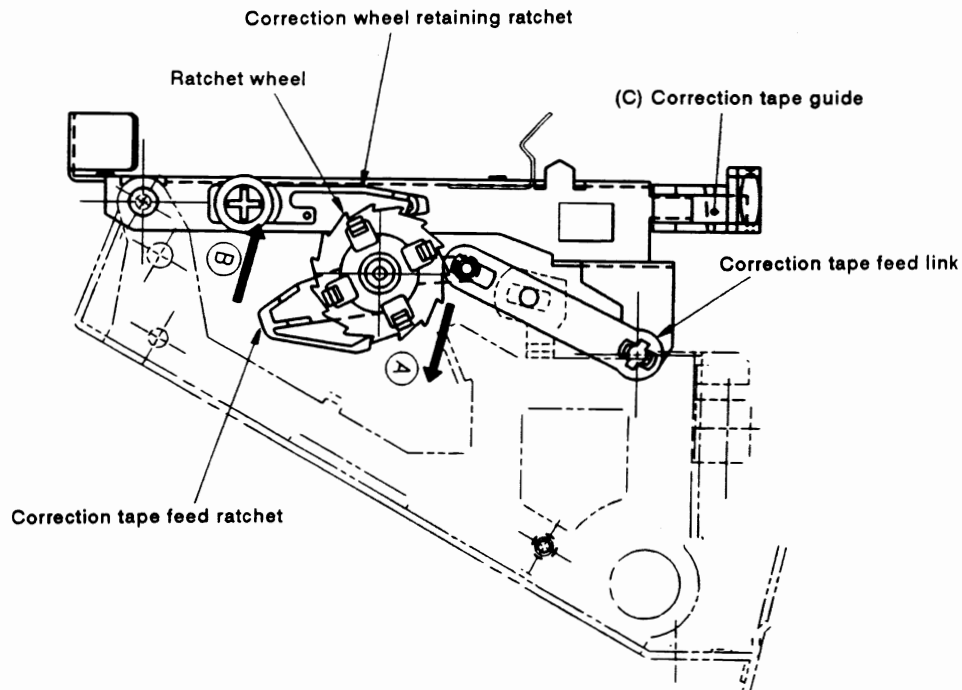

Fig. 3.2
- (3) The correction cam follower unit, which is mounted on the ribbon cassette support, has its shaft fitted in the groove of the correction cam. When the clutch collar rotates half a turn, the clutch armature stops the rotation. At this point, the correction cam follower unit fixed to the correction cam comes up to the apex of the cam and the ribbon cassette support is raised to its fully raised position, which brings the correction tape up to its printing position.
- (4) The hammer strikes the selected spoke four times against the correction tape to erase the printed character, while the ribbon cassette support remains at its raised position.
- (5) After the correction hammer has struck four times, current flows to the correction solenoid once more which causes the clutch armature, correction cam, and ribbon cassette support to return to their home positions.
NOTE: To check the vertical position of the correction tape, first print underlines " " with a correctable film ribbon. Then, erase underlines with a lift-off correction tape. The removed underlines should be 0.5 to 1.5 mm above the lower edge of the lift-off correction tape. If not, adjust the ribbon position by bending the correction tape guide at the front of the ribbon cassette support up or down (part (C) in Fig. 3.2)
- (6) The correction tape is fed by the vertical movement of the ribbon cassette support.
The shaft of the correction tape feed link is supported by the carrier frame, therefore, raising the ribbon cassette support moves the correction tape feed link in the direction indicated by arrow (A) shown in Fig. 3.2. The correction tape feed ratchet, connected to the correction tape feed link, is caused to move in the direction indicated by arrow (B) and catches the next tooth of the ratchet wheel. The correction wheel retaining ratchet prevents the ratchet wheel from rotating backward. When the ribbon cassette support is lowered, the correction tape feed ratchet rotates the ratchet wheel to wind up the correction tape.